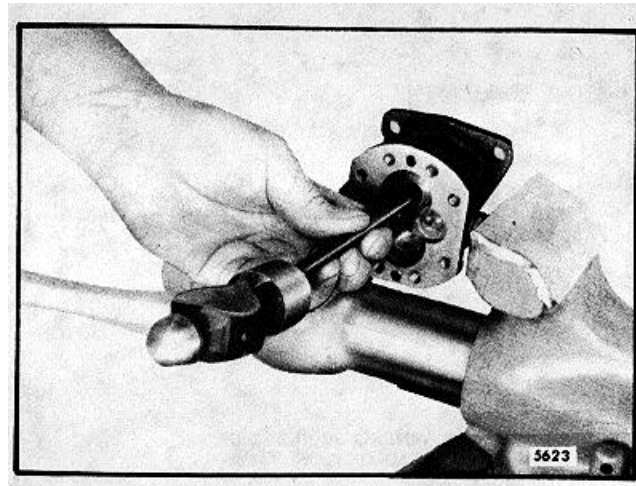

Fig. 6 - Removing Oil Seals
7. If the oil seals need replacing, remove them with oil seal remover J 1508-13 (Fig. 6). Clamp the pump body in a bench vise and tap the end of the tool with a hammer to remove the outer and inner seals.